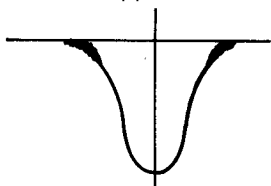
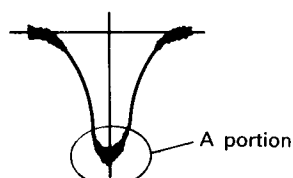

Fig. 21
Fig. 22
- Note 4: Adjust T202 so that the waveform shown in Fig. 21 is obtained. After adjustment, increase the sweep generator output and adjust so that portion A of the waveform shown in Fig. 22 is flat.